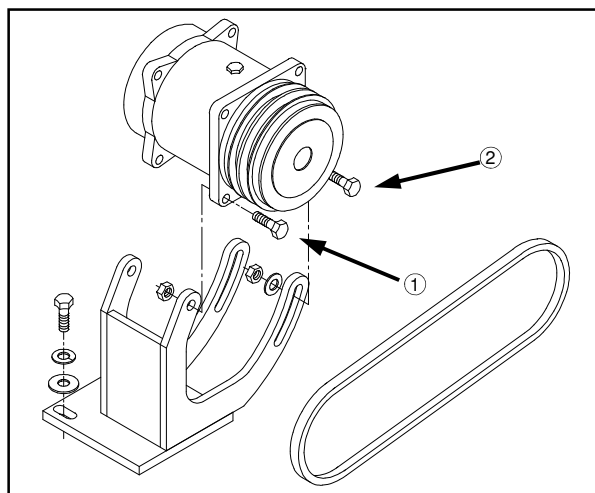

FIG 8.47
To tighten air conditioner compressor belt, loosen the two pivot bolts (fig. 8.47, item 1) and the two slide bolts (fig. 8.47, item 2). Using a suitable prying tool, adjust tension on belt to desired tautness. While maintaining tension, re-tighten all four bolts. Inspect belt ever 250 hours.